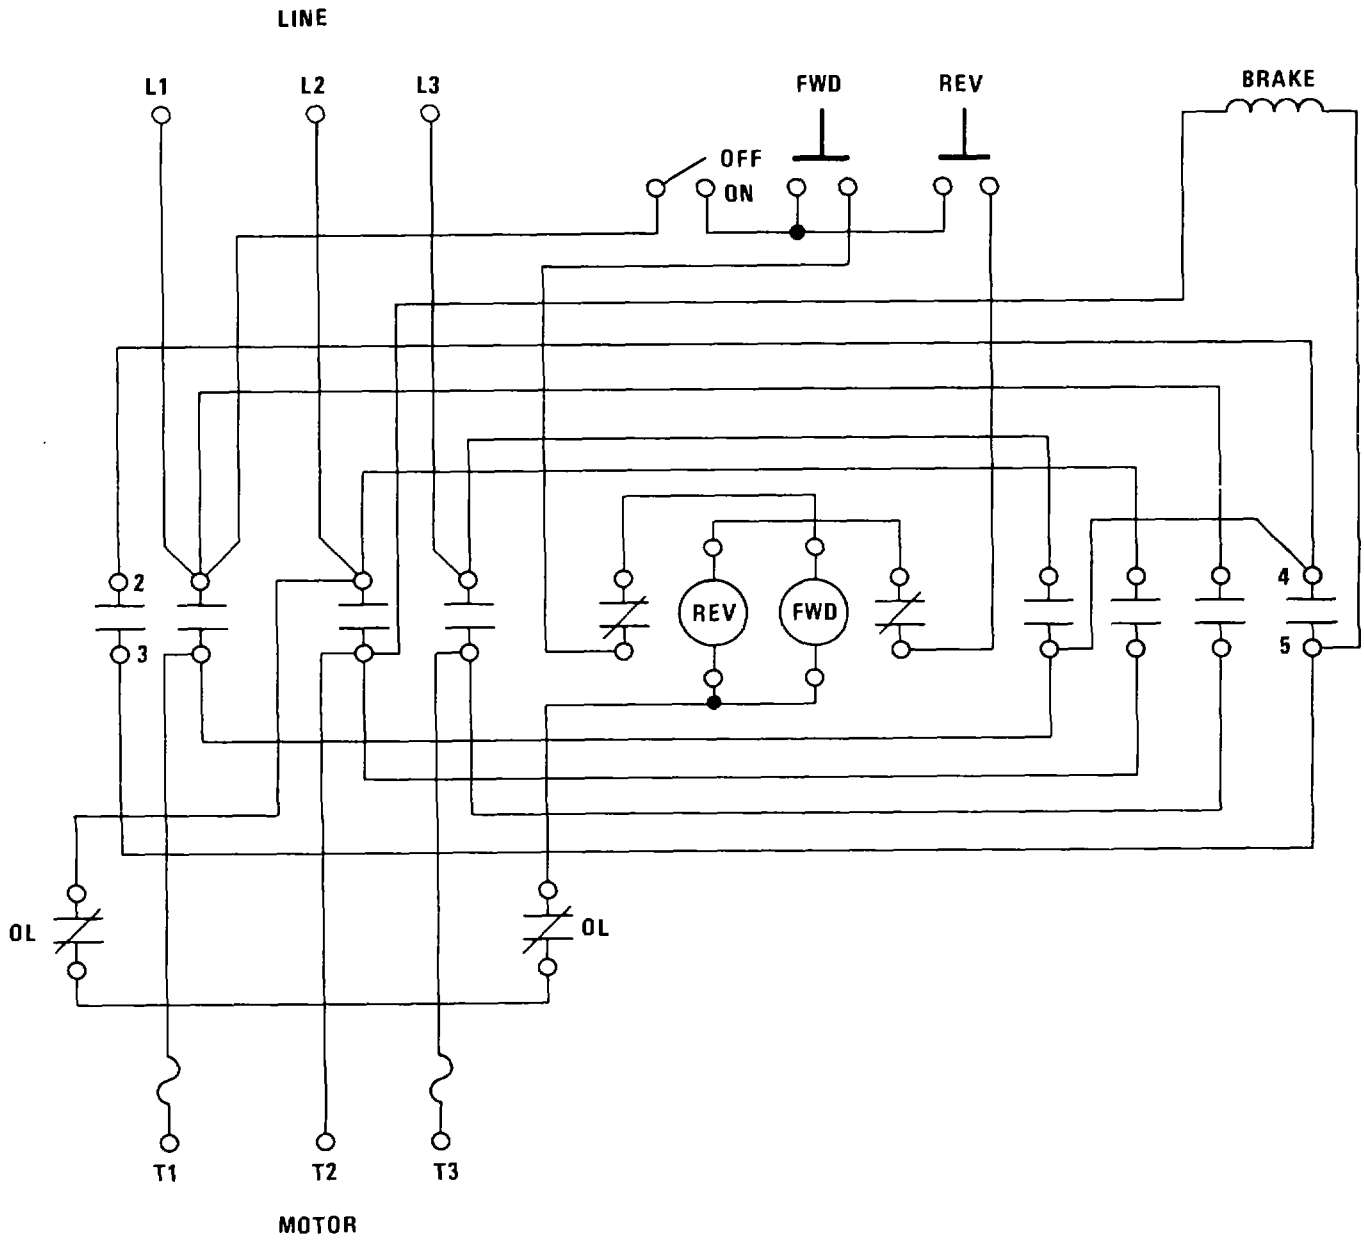

Figure 6-1. Elevator Hoist Control Schematic
c. The direction of the hoist drum rotation must be observed after the 230/460 V, three-phase, 60 Hz power is supplied to the elevator hoist control. The direction of rotation should correspond with the direction indicated by the control. If it is not, the direction can be reversed by interchanging any two of the three input power leads of the control (figure 6-1).